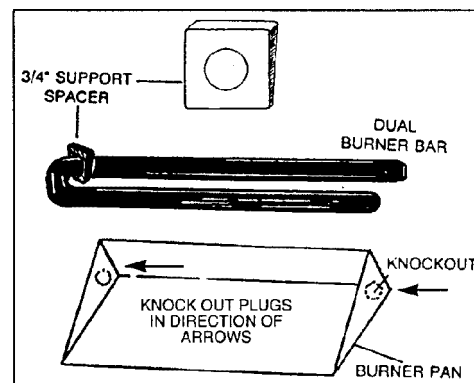

Figure 5. Burner bar placement
- C. Slide the 3/4" burner support spacer (Part # 10) over the Dual Burner bar (Part #9) and move spacer to opposite side of the gas inlet connection (See **Figure 5**).